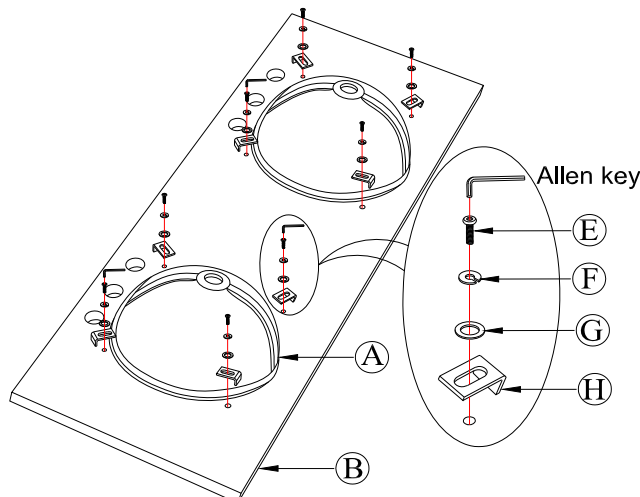

Fig. 1
1. Carefully turn the marble countertop (B) up on a carpet or scratch-free surface. Position the basin (A) over the marble top cut-out. Make sure the basin is centered to the marble top cut-out. Attach basin to marble top by placing L shape brackets (H) and insert bolts (E) with spring washers (F) and flat washers (G). Tighten by Allen key provided. But **DO NOT** over tighten. Repeat for the other basin. Fig. 1